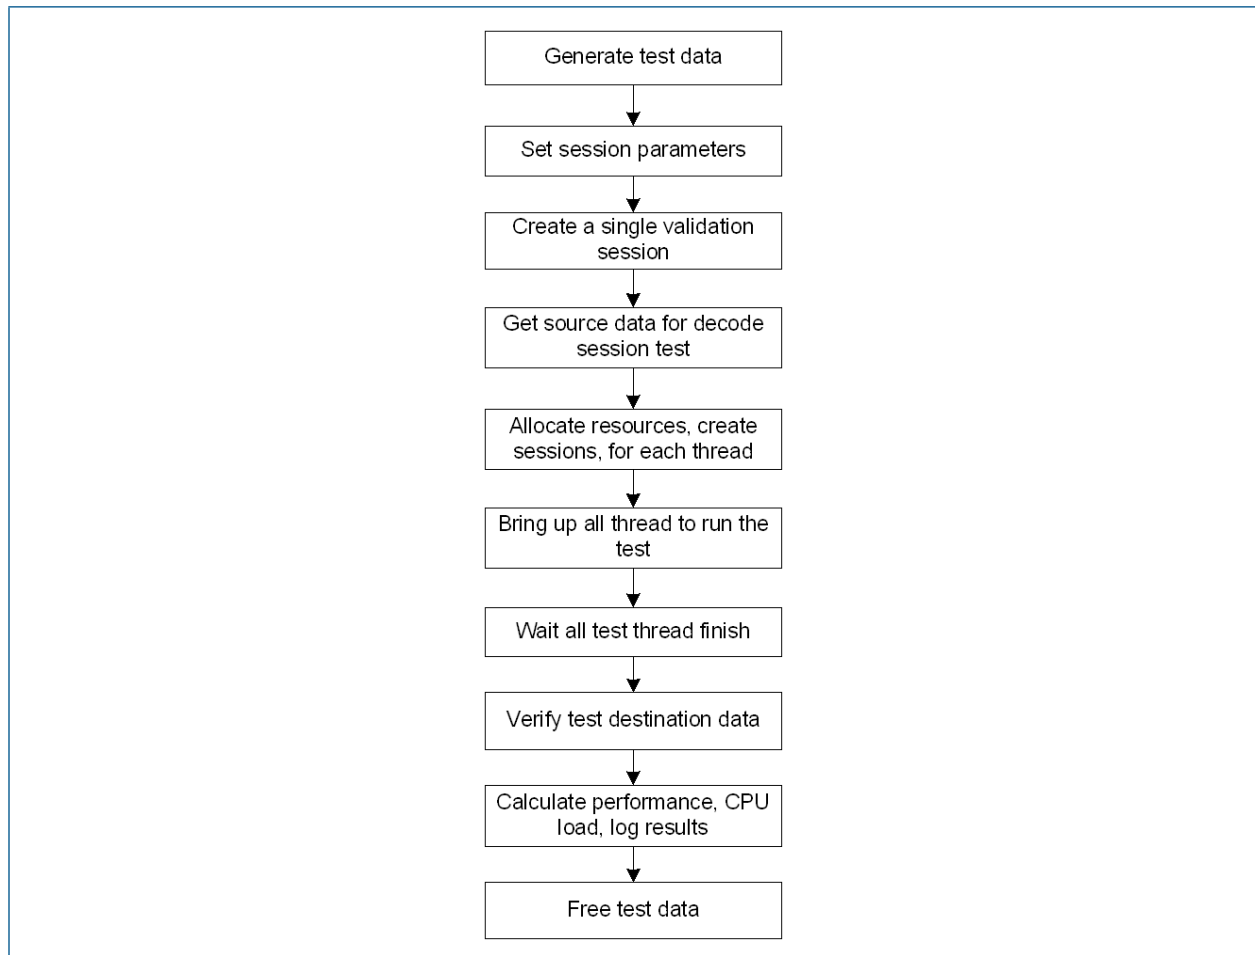

Figure 7-3. Packet Processor Performance Flow Diagram
4. Run the encode/decode performance test of Data Offload/Raw Acceleration session based on demo configuration file, as shown in Figure 7-3.